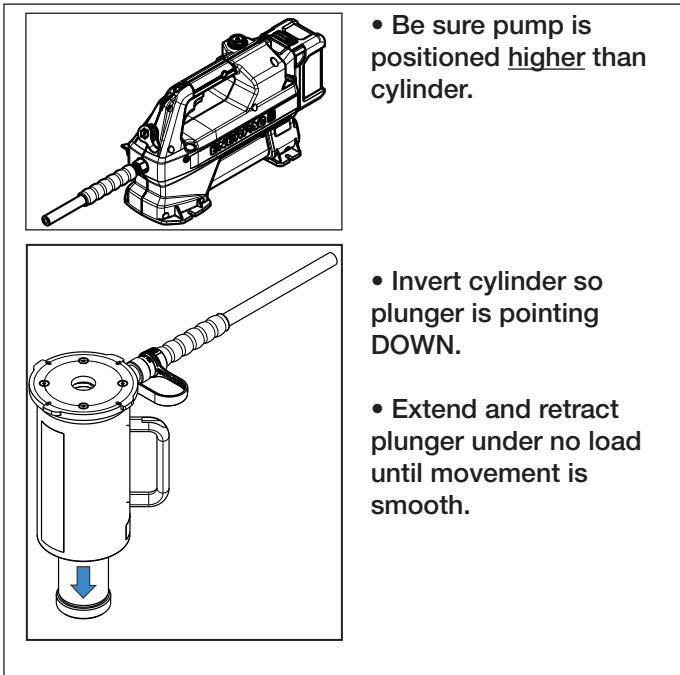

Figure 5: Air Removal
2. Start the pump and run the cylinder through several complete advance-retract cycles. Do this with the cylinder plunger pointing DOWN, and with the pump positioned *higher* than the cylinder or tool. See Figure 5.